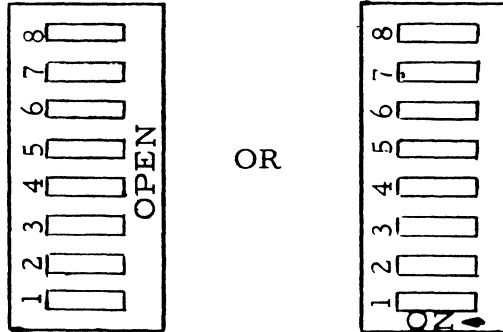

Figure 4 - SW1 Orientation
- () ● Insert and solder the three dip switches (SW1, SW2, SW3) as follows (Figures 4, 5 and 6):